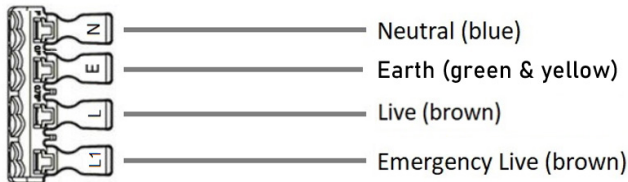

Fig. 3
- Connect the luminaire to the mains supply ensuring the correct polarity is observed (see Fig. 3): L – Live (brown), E – Earth (green/yellow), N – Neutral (blue) and L1 – Emergency Live (brown). The earth terminal is non-functional and only provided for convenience. Two cables can be inserted into the push-fit terminal block in order to achieve loop-in/loop-out wiring